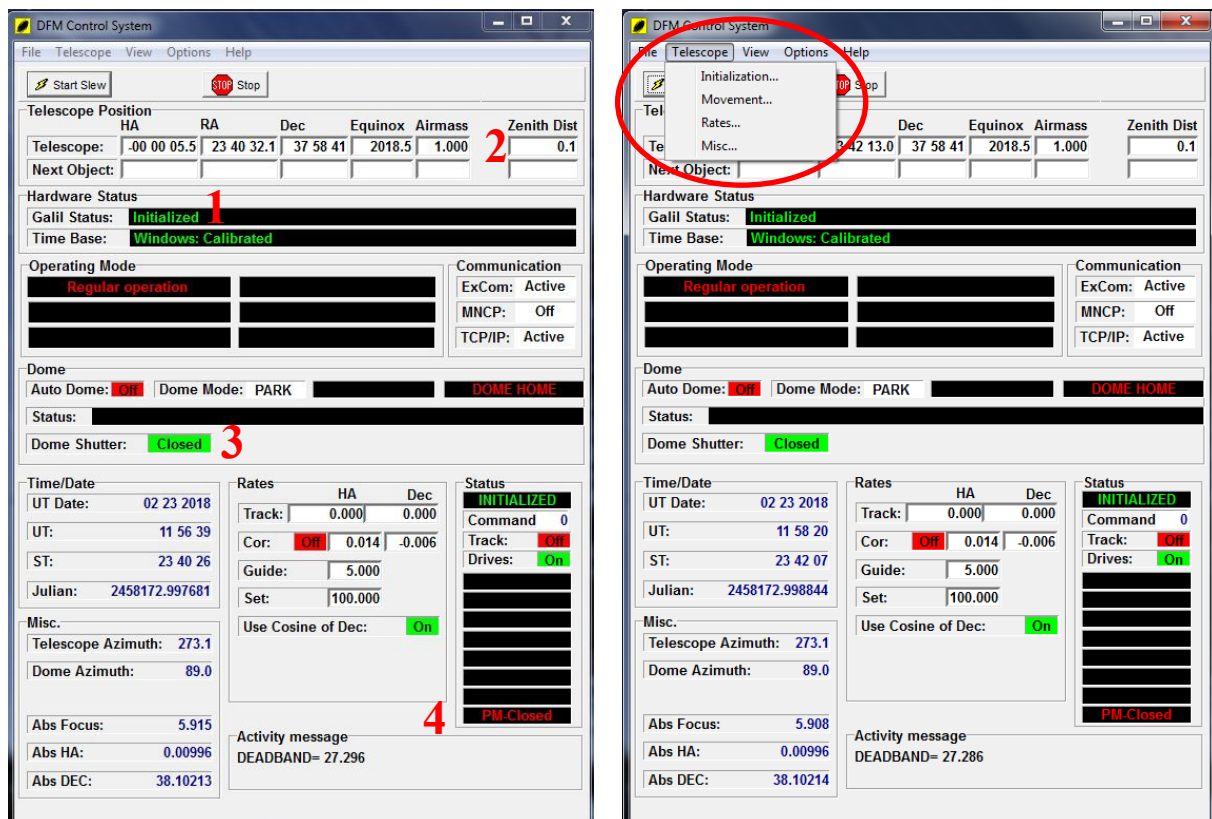
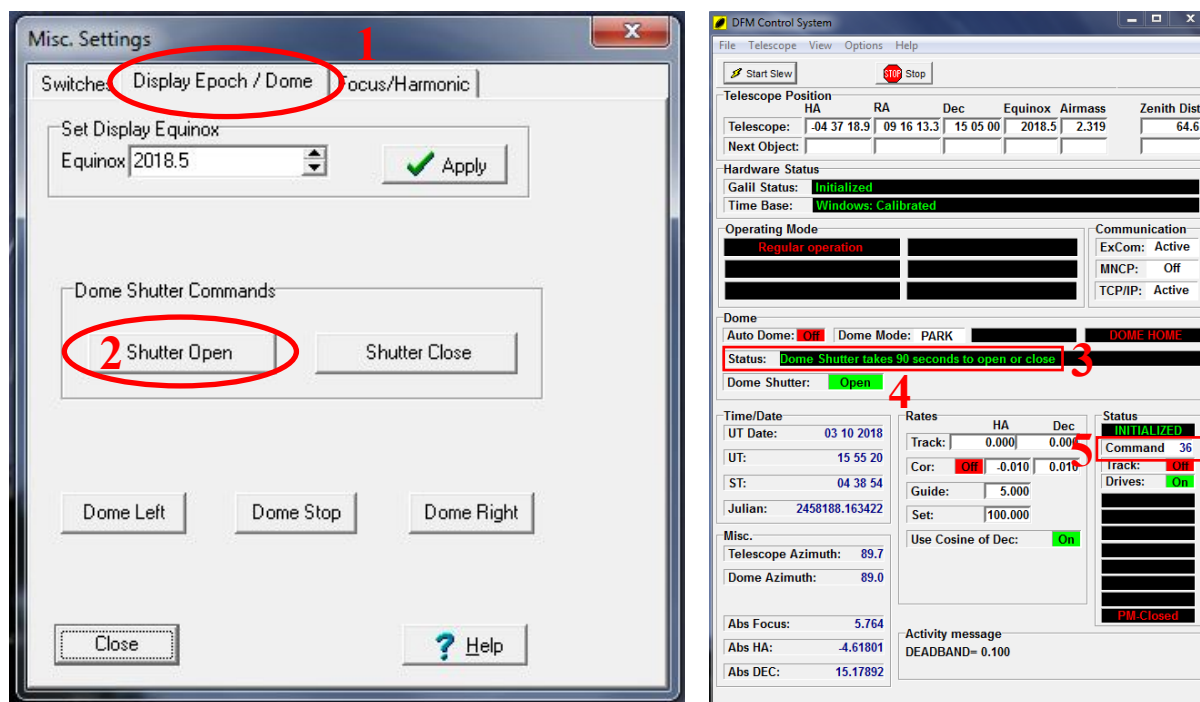
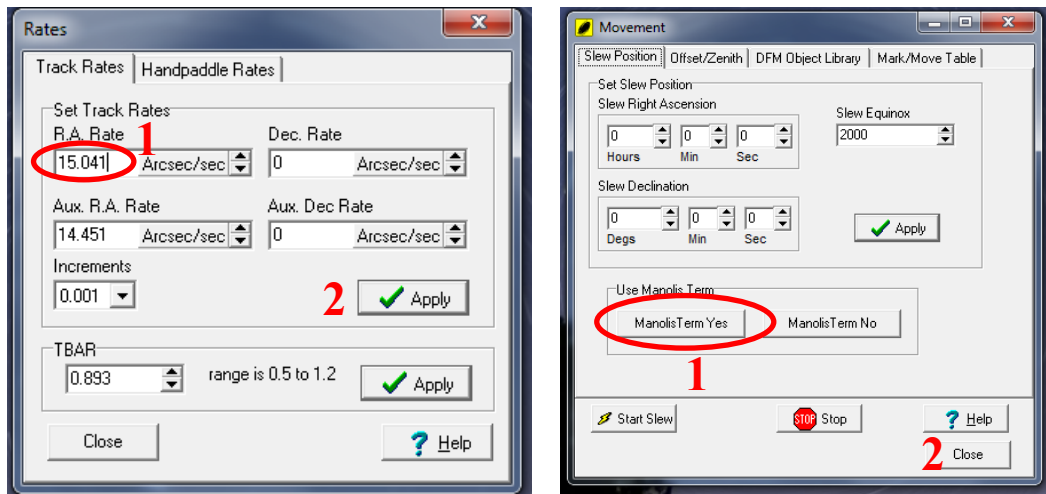
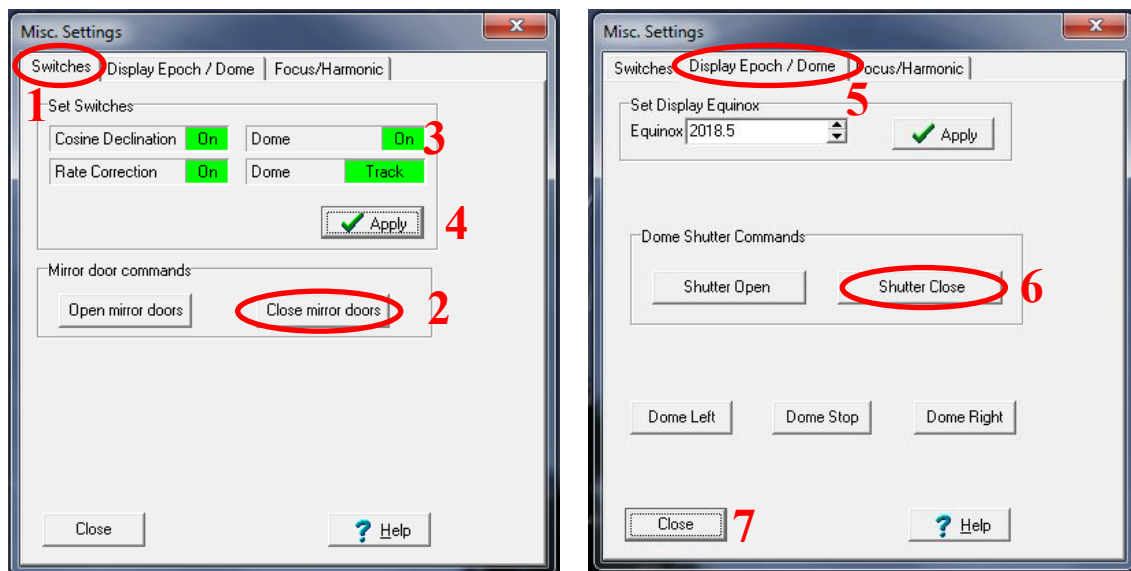

Fig. 2.7. Left: The initial status screen of the DFM software. Right: Menu of the “Telescope” tab
Fig. 2.8. Left: The window with the dome shutter controlling commands. Right: The status messages for the dome shutter.
Fig. 2.10. Left: The “Track Rates” menu. Right: The “Movement” menu.
Fig. 2.17. The “Misc... Settings” menu. Left: The options for the switches and the mirror doors. Right: The dome and the some shutter software control.
7. Open the **DFM-TCS software** that is located on the upper right part of the desktop (yellow shortcut). The following window (Fig. 2.7 left) opens.
Checks (Fig. 2.7 left):
- i. Click on the “Telescope” tab and select “Misc...” (Fig. 2.7 right). The “Misc...” window opens (Fig. 2.8 left).
- ii. In the “Misc...” window click on the “Display Epoch / Dome” tab (Fig. 2.8 No 1) and press the button “Shutter Open” (No 2). Now the dome shutter begins to open. You must be able to hear the noise from the dome floor. The opening lasts ~ 90 sec and the status (No 3) displays the message “*Dome Shutter takes 90 seconds to open or close*” and the “Dome shutter” message box turns to “Open” (No 4). Wait before any further action until the shutter is completely open and the command box to change from 36 to 0 (No 5).
- v. Click on the “Telescope” tab and select “Rates” (Fig. 2.7 right). The “Rates” window opens by default in the “Track rates” menu (Fig. 2.10 left). If the “R.A. Rate” is “0”, then type “15.041” (Fig. 2.10 left No 1). If not, leave it as it is. Press “Apply” (Fig. 2.10 left-No 2).
- vi. Click on the “Telescope” tab and select “Movement” (Fig. 2.7 right). The “Movement” window opens (Fig. 2.10 right). Click on the button “Manolis Term Yes” (Fig. 2.10 right-No 1) and press “Close” (Fig. 2.10 right No 2).
- i. Click on the “Telescope” menu and select the “Misc...” tab (Fig. 2.7 right). The “Misc. settings” window opens (Fig. 2.17 left).
- ii. Click on the “Switches” menu (Fig. 2.17 No 1) and press the “Close mirror doors” button (No 2). Wait ~2 min until the message “PM closed” appears in the status boxes (Fig. 2.7 left No 4). If the latter message does not appear check section 8.2.
- iii. In the “Switches” menu click on the “ON” box (Fig. 2.17 No 3) of the upper “Dome”. It will change to red displaying “OFF”. Press “Apply” (No 4).
- iv. In the “Misc. Settings” window click on the “Display Epoch / Dome” tab (Fig. 2.17 No 5) and press the button “Shutter Close” (No 6). Now the dome shutter begins to close. You must be able to hear the noise from the dome floor. The opening lasts ~ 90 sec and the status (Fig. 2.8 No 3) displays the message “Dome Shutter takes 90 seconds to open or close” and the “Dome shutter” message box turns to “Closed” (Fig. 2.7 left No 3). Wait before any further action until the shutter is completely closed and the command box to change from 36 to 0 (Fig. 2.8 No 5).
- v. Click on the “Close” button (Fig. 2.17 right No 7).